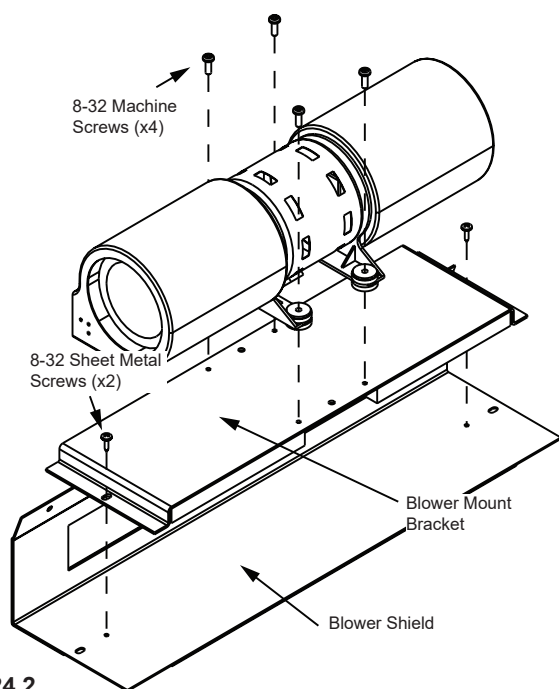

Figure 24.2
6. Using Phillips head screwdriver, remove two 8-32 sheet metal holding the blower mount bracket to the blower shield (**Figure 24.2**).